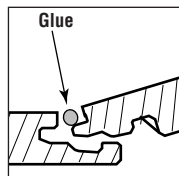

Fig. 24
2. All joints must be properly glued. Apply a thin, continuous $3/32''$ (2.4 cm) bead of glue to the top of the tongue **ONLY** (Fig. 24).